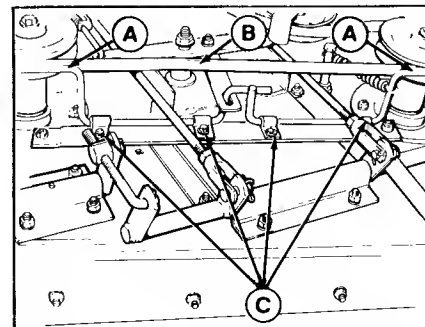

Figure 48.
Inspect the mower deck with the mower attached and PTO rod released. The blade brake rods (A, figure 48) should firmly contact the belt (B) at the rear of the right and left arbor pulleys. There should be a shaft clearance between the two brake rods in the center.